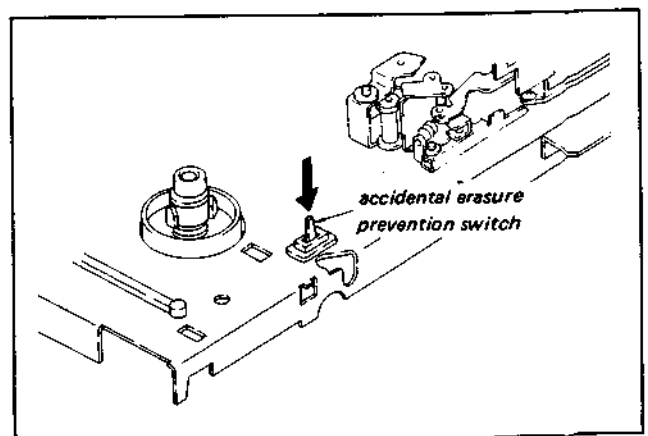

Fig. 1-7. How to put the recorder in recording mode with the FL cassette compartment removed
1. Thread by the procedure in 1-6-1, then press the accidental erasure prevention switch shown in Fig. 1-7.